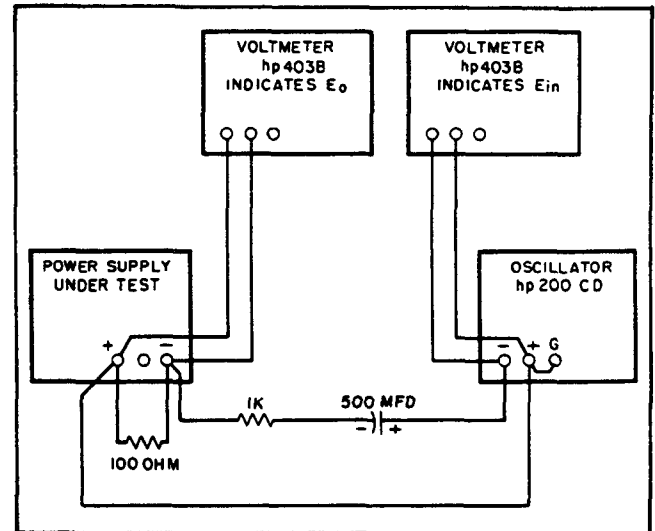

Figure 5-11. Output Impedance Test Setup
a. Connect test setup as shown in Figure 5-11.